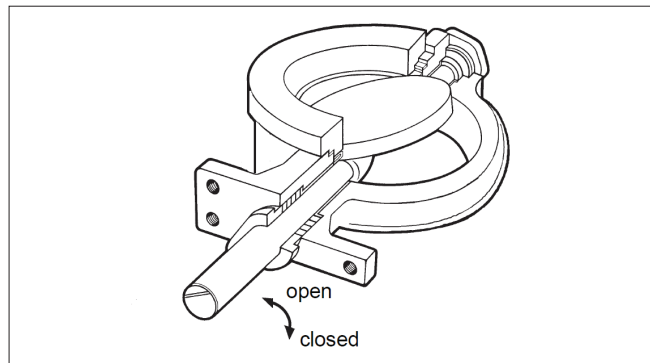

Fig. 14 Open and closed positions of the valve
The marking line parallel to the disc on the valve shaft head shows roughly the closed position of the disc (see Fig. 14). Pressure shocks can cause loosening of the pin connection between disc and shaft; consequently the shaft moves while the disc remains in place and this prevents full closing of the disc. If the reason for the leakage does not become apparent after doing the above, the valve must be disassembled for replacing the parts.
- Press the shafts into the disc drillings. Align the pin holes. The shaft (5) position against the disc must be according to Figure 14.
- Install the gasket (31) and the blind flange (8). Screws of the blind flange must be tightened evenly. An unevenly tightened flange will damage the seat.
- Install the body gasket (32) and the clamp ring (2). See details in Section 5.5.
- Check the contact line between the seat ring and the disc (see Fig. 14).